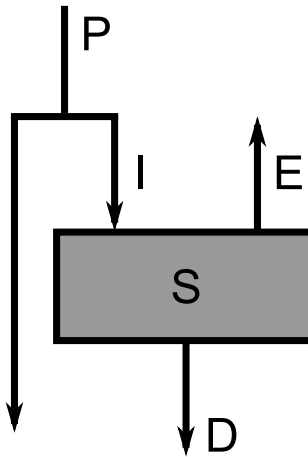

Figure 5.1: Definition of flows for the interception model.
Conceptually, the interception model is a very simple water balance of the canopy. Water storage in the canopy (S) changes with time t , as a result of precipitation (P), interception (I), drainage (D) and evaporation (E); see Figure 5.1 and Equation 5.1.